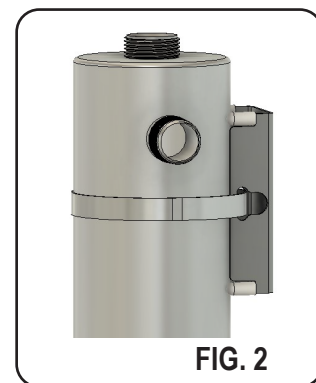

FIG. 2
**2 UVD600, UVD800, UVD1000, UVD1200:** Mount the unit to the wall using the brackets provided. Use keyhole to attach one screw in desired location, then level and attach second screw, tightening both until secure. Repeat for second bracket, spacing them to sit inside of the inlet and outlet ports on the chamber. Open gear clamps and slide through slots in brackets. Place chamber on brackets and tighten gear clamps. Overtightening can damage silicone feet and scratch chamber. Clamps can be rotated before fully tightening to hide the gear mechanism inside the bracket. See FIG. 2.